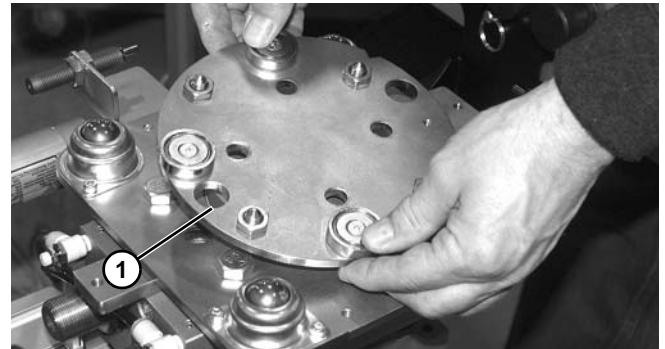

Figure 103
7. Remove rotation plate (Figure 103, item 1).